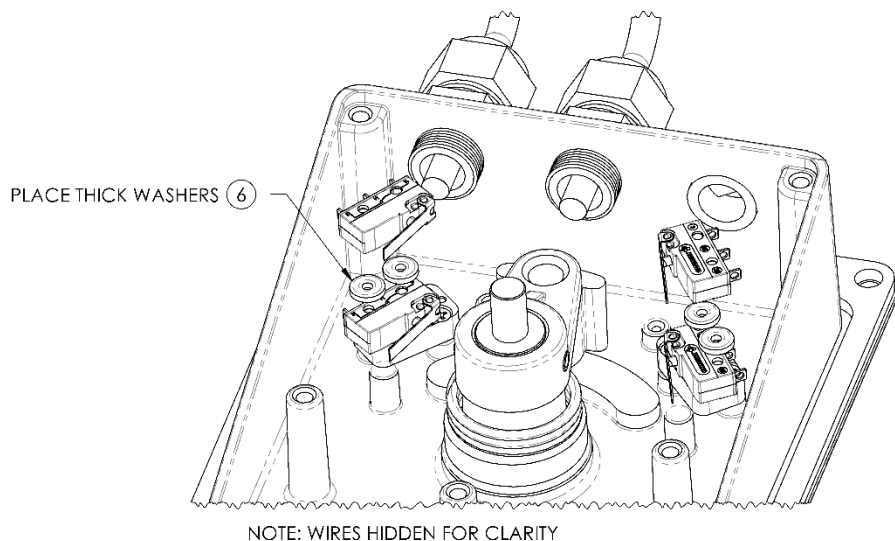

Figure 15: Placement of microswitch spacers
13. [4 microswitch models only] Insert the thick washers ⑥ in between the upper and lower microswitches as shown in Figure 15 ensuring the washers line up with the mounting holes of the microswitches.